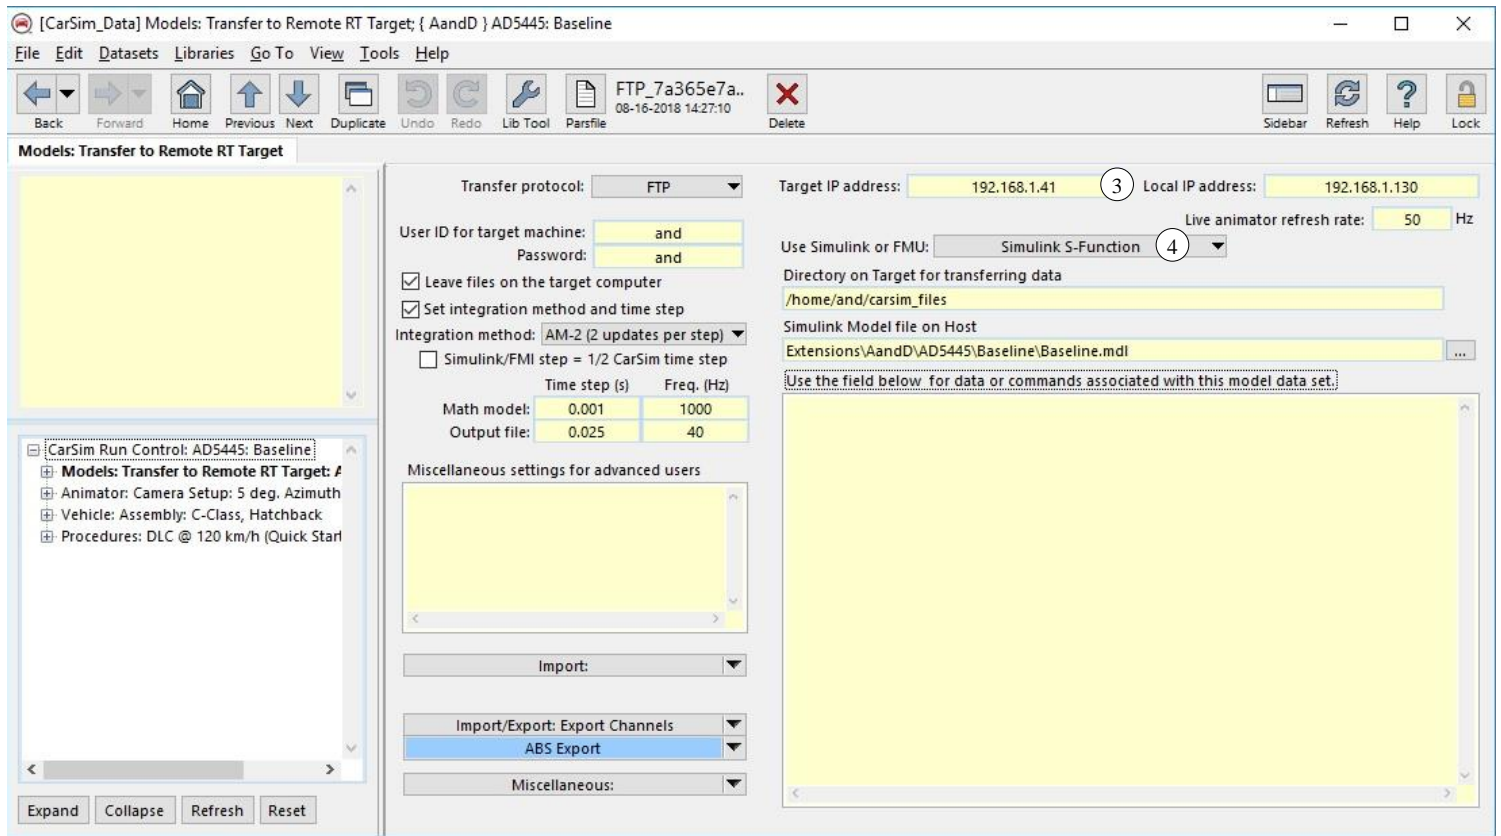

Figure 6. Models: Transfer to Remote RT Target dataset.
3. Click the **AD5445: Baseline** blue link ⁽²⁾ to open the **Models** dataset (Figure 6).
6. Confirm that the integrator settings match those shown in Figure 6.